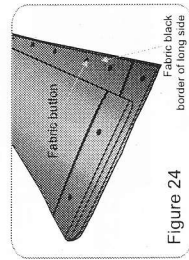
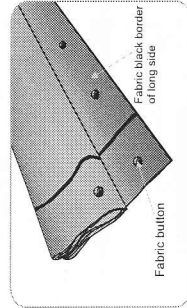
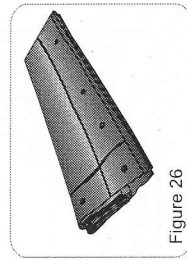

Figure 24
Figure 25
Figure 26
2. Take off the fabric from the frame by releasing the buttons (Figure 24). Clean the fabric if necessary. Double up the fabric along the short sides as Figure 24, then double up again as Figure 25. (100" fabric double up thrice, 120" and 150" fabrics double up quartic.) Then double up again as Figure 26 indicates. Leave the black border alone in case of scratch. (two operators are required.)